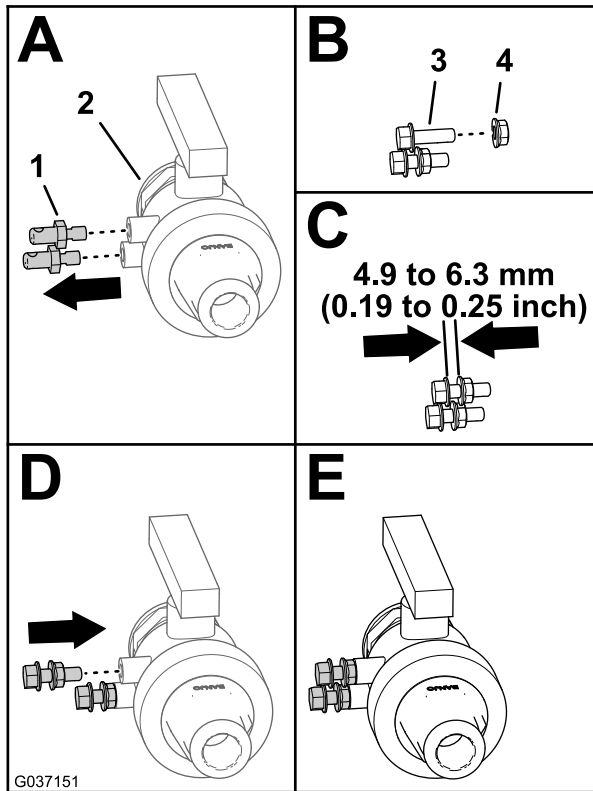

Figure 12
- Remove the 2 mounting pegs from the drain valve (A of Figure 12).
- Thread the 2 flange locknuts (5/16 inch) onto the 2 flange-head bolts (5/16 x 1 inch) as shown in (B and C of Figure 12)
- Assemble the flange locknuts and flange-head bolts to the drain valve and tighten them by hand (D and E of Figure 12).